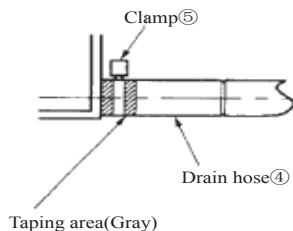

Fig.11
- * Use the attached drain hose ④ and clamp ⑤ .
* Insert the drain hose completely into the drain socket. Tighten the clamp within the range of gray tape until the screw head is less than 4mm from the hose. (Refer to Fig.11, Fig.12)